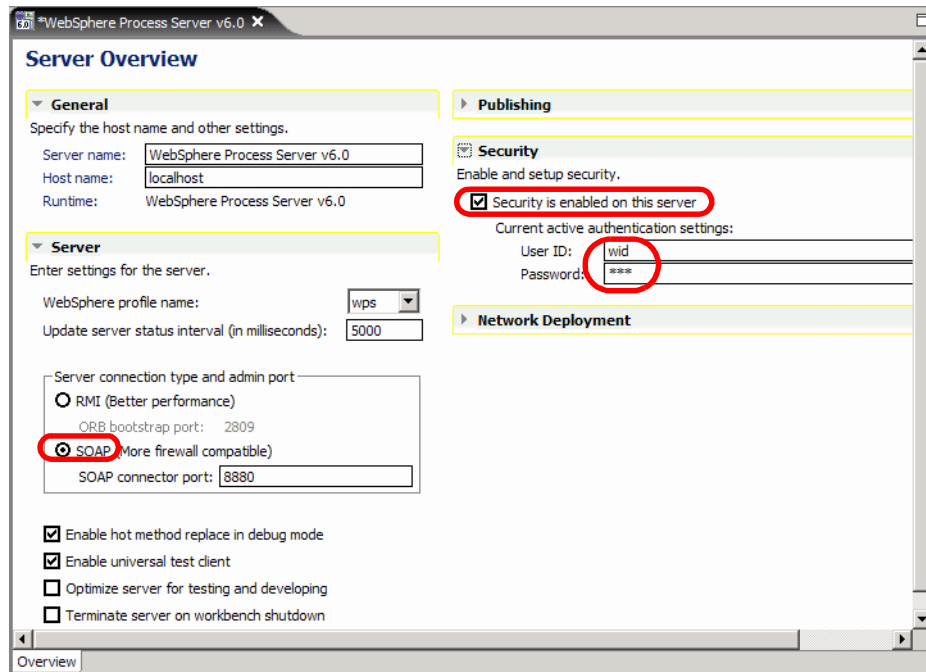

Figure 11-17 Server configuration in Integration Developer
- ▶ Select the server in the Servers view and *Open* (Figure 11-17).